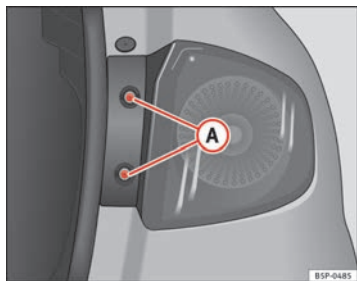

Fig. 192 Side lights and brake lights
- Remove the bolts ⇒ fig. 192 **A**.